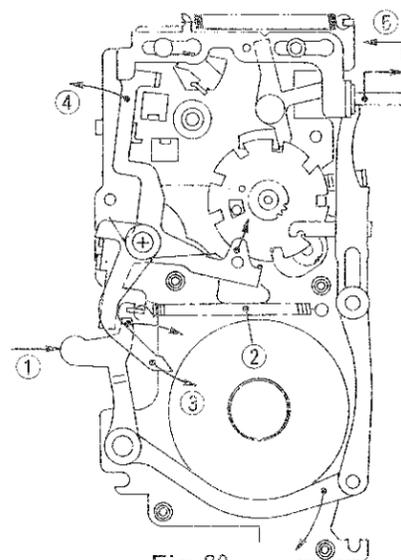

Fig. 83
1. When a film is loaded and the back cover is closed, (1) is pushed (Fig. 83) and (3) (4) (5) operate in the arrow direction by means of (2) spring action, whereby the pin (5) transmits information before wind-up to the camera body.